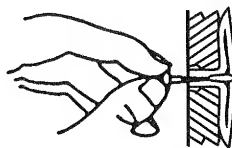

Figure 10 - Popping Open Anchor Wing for Thin Walls
4. For thin walls (1/2" or less), insert red key into wall anchor. Push red key to "pop" open anchor wings. (see Figure 10)